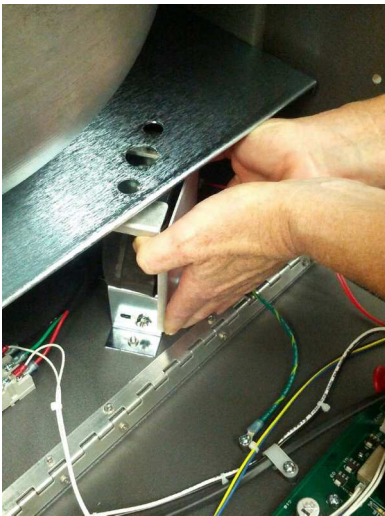
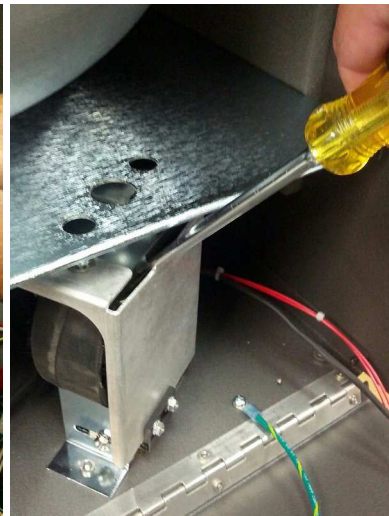

Figure G.2
Figure G.3
6. If the plate is bent out at the bottom the plate can be adjusted by holding the top while pushing in on the bottom (see Figure G.2). Leverage can be gained by the use of a screwdriver (see Figure G.3) while pushing in on the bottom.